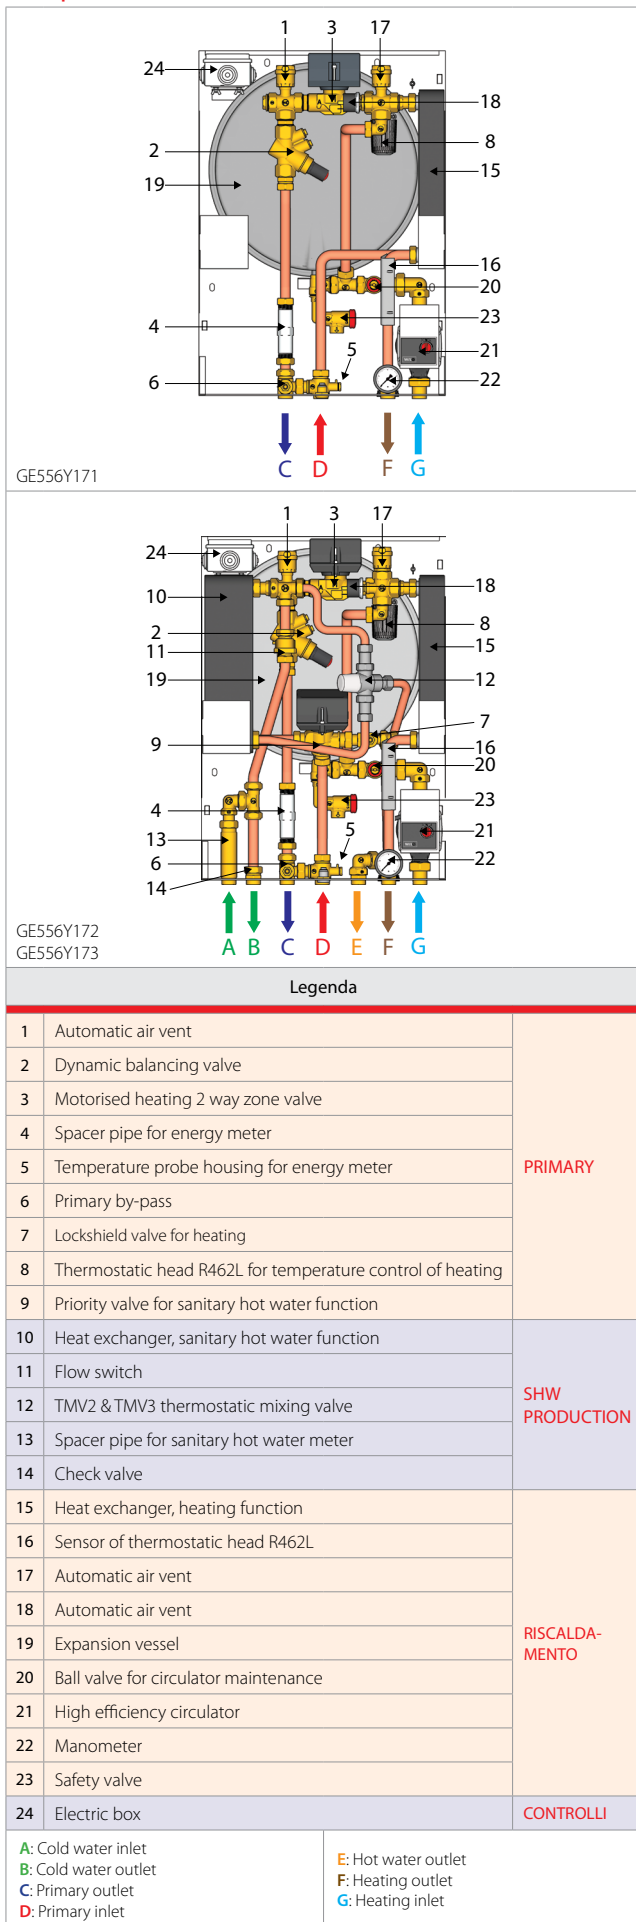

Figure 2 – components
**SHW:** cold inlet (fig.2-A), cold outlet (fig.2-B), hot outlet (fig.2-E). In place of the brass spacer (fig.2-12) a sanitary hot water meter can be installed. A TMV2+TMV3 thermostatic mixing valve regulates the temperature of SHW (Sanitary Hot Water).
**HEATING:** inlet (fig.2-G) and outlet (fig.2-F). The circuit is simply composed of the heat exchanger and a circulator. As it deals with a closed circuit, the equipment is completed by: expansion vessel, safety valve, and manometer. For the heating provide for a filling system, that is a connection from the sanitary to the heating, with an appropriate backflow preventer.
**PRIMARY:** inlet (fig.2-D) and return (fig.2-C). The energy meter can be installed in place of the spacer (fig.2-4) by installing the inlet temperature probe in the appropriate housing (fig.2-5). For GE556Y171, the primary circuit operates only for the heating circuit; the primary circuit is composed of a dynamic balancing valve, an automatic air vent, a heat exchanger and a thermostatic valve with remote sensor that regulates the power for the heating circuit. The zone valve can control the heating by means of a thermostat (not supplied). For GE556Y172-173, the primary circuit is divided into two sides: one is for the heating handling (similar to the one described above), the other is for the production of SHW. If the SHW flow switch is activated (by a SHW request), the priority valve closes the heating side and gives power to the SHW production side.